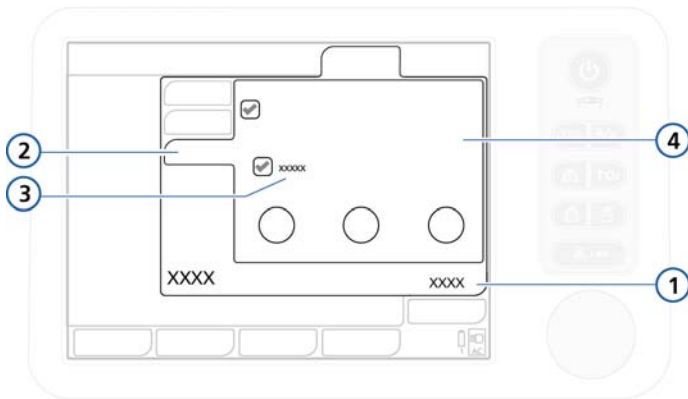

Figure 4-7. Apnea window, Automatic button
4. If applicable, open the **Controls** -> **Apnea** window (Figure 4-7). Select or deselect **Backup** as desired.
After you select a different mode, the **Basic** window automatically opens (Figure 4-7) showing the new mode name and parameter settings. Review and confirm these proposed settings or the mode change will not be accepted.
3. If applicable, open the **Controls** -> **Apnea** window (Figure 4-7).